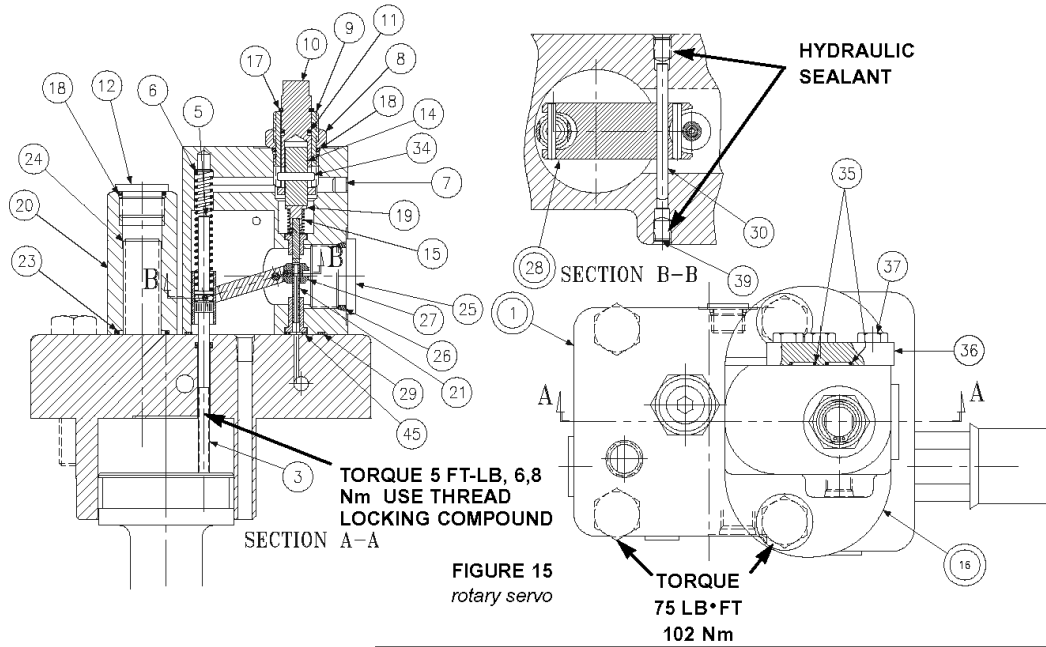

FIGURE 15
PARTS LIST FOR FIGURE 15
1. See Figure 15. Remove 2 screws holding body (16) to cap assembly (1).
2. Remove all parts from body (16) except pin (30) and arm assembly (28). It is not necessary to remove these parts unless broken or worn. Examine parts for wear or damage.
3. Remove screw (3). Examine head for excessive wear, and body for smooth sealing surface with O-ring.
2. Install spool (6) into bore as shown. Install spring (11) over end of spool.
3. Install O-ring (8) on spring retainer (7). Install retainer (7), screw (13) and nut (14) in plug (4).
4. Install O-rings (10) and (15) on plug (4). Install plugs (4) and (12) in body (1). Install .047", 1,19 mm orifice (19), and .071", 1,98 mm orifice (20), and plugs (2) and (17). Torque plugs. Install O-ring (21) in cap.
5. Turn screw (13) in until spring retainer (17) contacts spring (11). Turn an additional 1-1/2 turns and lock in position.
8. See Figure 15. Apply thread sealing compound on threads of screw (3), lubricate the shank, thread through the cap into the control piston, and torque to 5 lb.*ft., 6,78 N m.
9. Install minimum stop screw (24) and turn clockwise to by two springs, one which is always in contact with the pin, and the other comes in contact as pressure increases, to provide an increase in spring rate as pressure increases. Stroke pump to full displacement.. Measure height from control cap to top of screw (3). With control piston at full displacement, dimension must be .74 +/- .03 in., 18,8 +/- 0,76 mm. Back out minimum stop screw (24) till there is no contact with control piston.
10. Press dowel (30) into body (16), through the link (28), to 1/4 in., 6,35 mm below surface. Apply hydraulic sealant to threads of screws (39) and install over dowel (30).
11. Press spool (21) into retainer (19). Caution: do not use excessive force.
12. While sleeve (27) is engaged into dowel on link (28), slide above spool assembly with spring (15) into bore of body (16), and through sleeve (27). Spool (21) must move freely and easily at all positions of the link (28).
13. Press dowel (34) through slide pin (14), while inside shaft (10). Dowel (34) must evenly extend from both sides of slide pin (14).
14. Assemble all other components into body (16) per Figure 15. Torque plug (12)
15. While spring retainer is engaging clevis pin (5) under dowel of link (28), slide the other opening of spring retainer over the top of the screw (3). Attach body assembly (16) to cap (1) with two screws and torque to 75 lb.*ft., 103 N m.